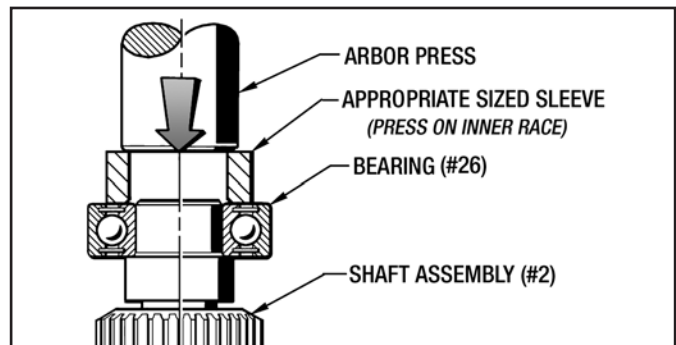

Figure 9.4 - Installing Bearing (#26) in a Motor Brake
1. Install the Bearing (#26) on to the Shaft Assembly (#2) with an Arbor Press and the appropriate Sleeve as shown in Figure 9.4. **Make sure the Bearing is completely seated on the shaft shoulder.**